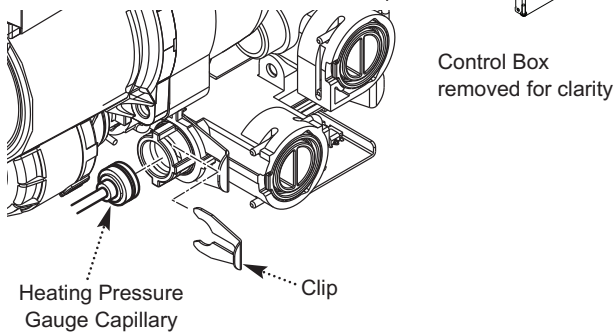

Fig. 60
10.3.14 Heating Pressure Gauge (Figs. 60 & 61)